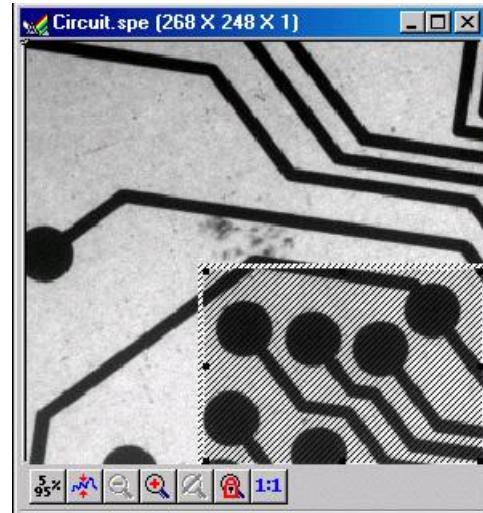

Figure 98. *Circuit.spe* with Region Selected for Viewing
1. Using the mouse, position the cursor at one corner of the region to be defined, depress the left mouse button, drag the cursor to the diagonally opposite corner, and release the mouse button. Refer to Figure 98.